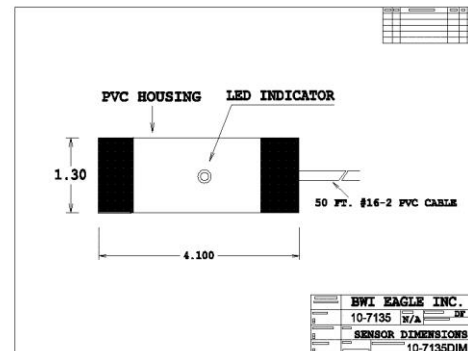

FIGURE 1
2. Affix a target on the roller or shaft. The target should be a piece of key-stock, 1/4-20 Hex Nut, etc. (Figure 1) **NOTE:** The use of a notch or a dent is not an acceptable target for the prox sensor. This sensor must see the presence of a target, not an absence of a target as there would be with a notch or dent.